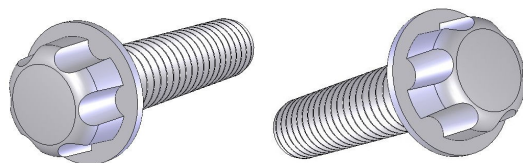

Fig 2. Tamperproof Screw Bolt Used in Sealed Cell Assemblies
The tamperproof M3 x 12mm screw bolts (7) are shown as **Fig 2**. They require a special tool for fitting and this means that these bolts (7) can be neither tightened or loosened when an appropriate sealed cell assembly (static or flow Series cell) has been supplied as ordered for its particular combination of windows and pathlength spacer setting.